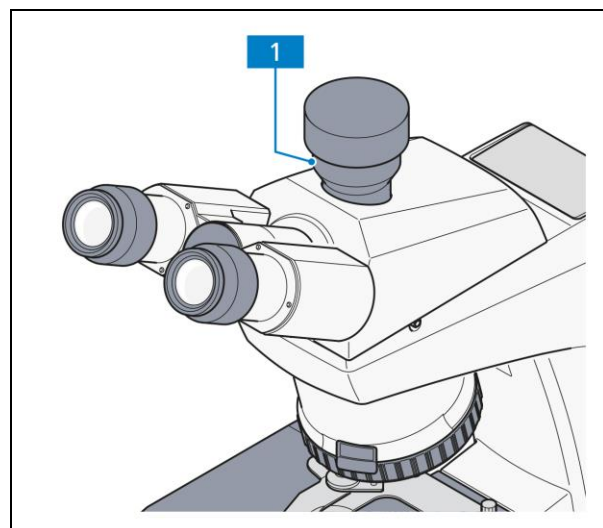
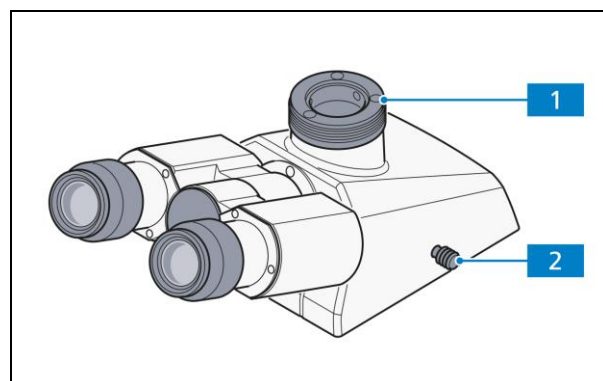
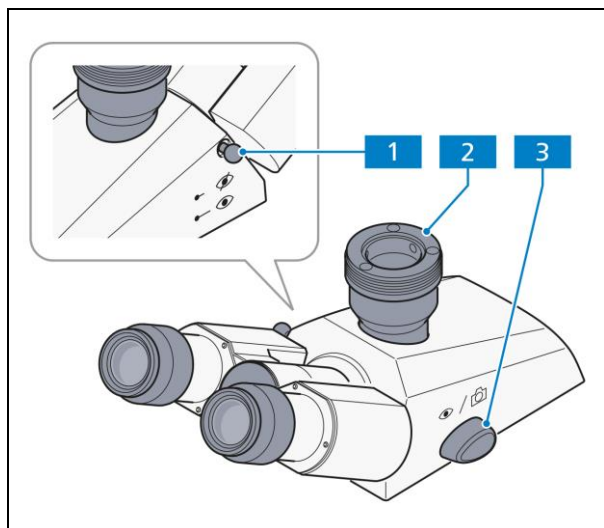

Fig. 2-8 Binocular photo tube 30°/23 with fixed graduation 50:50
Fig. 2-9 Binocular photo tube 20°/23 with toggle graduation 100:0/0:100
Fig. 2-10 Binocular photo tube 30°/23 with toggle graduation 100:0/0:100
The appropriate adapters for reflex cameras, microscope cameras and video cameras may be plugged into the camera port (Fig. 2-8/1, Fig. 2-9/1 or Fig. 2-10/2) of the binocular photo tubes.
Fifty percent of the light is directed to the eyepieces and fifty percent to the camera port (Fig. 2-8).
- Slider (Fig. 2-9/2) pushed in: 100% light to eyepieces.
- Slider (Fig. 2-9/2) pulled out: 100% light to camera.
- Shift knob (Fig. 2-10/3) to front (eye symbol):
- Shift knob (Fig. 2-10/3) to the rear (camera symbol):
- Push-pull rod (Fig. 2-10/1) pushed in:
- Push-pull rod (Fig. 2-10/1) pulled out: